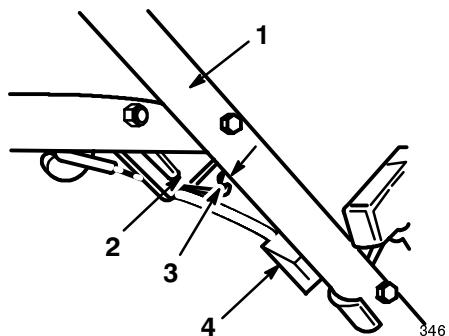

Figure 35
4. Loosen the nut on the cable bracket (Fig. 35).